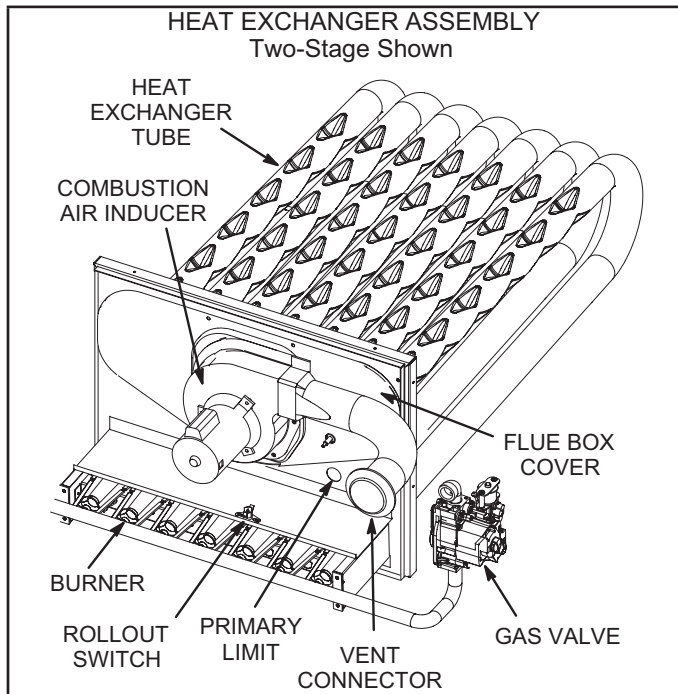

FIGURE 37
- 4 - Remove and retain screws securing combustion air inducer to flue box. Remove vent connector. See FIGURE 37.